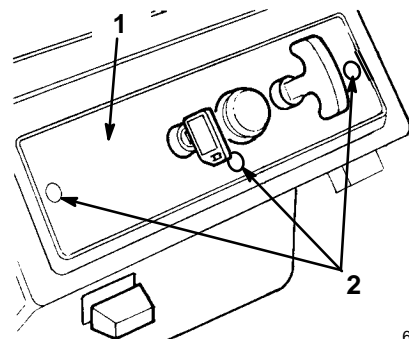

Figure 22
1. Remove three capscrews securing the control panel to the housing (Fig. 22).